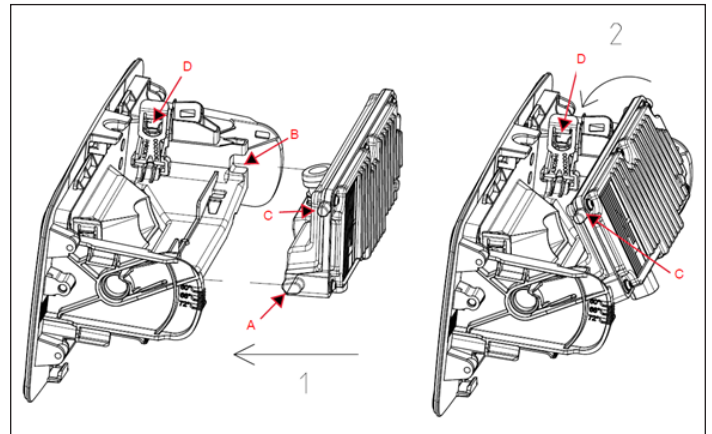

Figure 13 – Camera Installation
1. Hold the camera in a lens-up orientation. Referring to *Figure 13*, insert the tabs (A) into the slots (B).